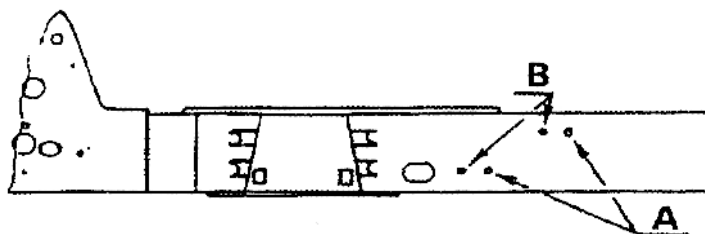

Fig. 4
- At each end of the fixed track, remove the wire rope guide screws (Fig. 4).